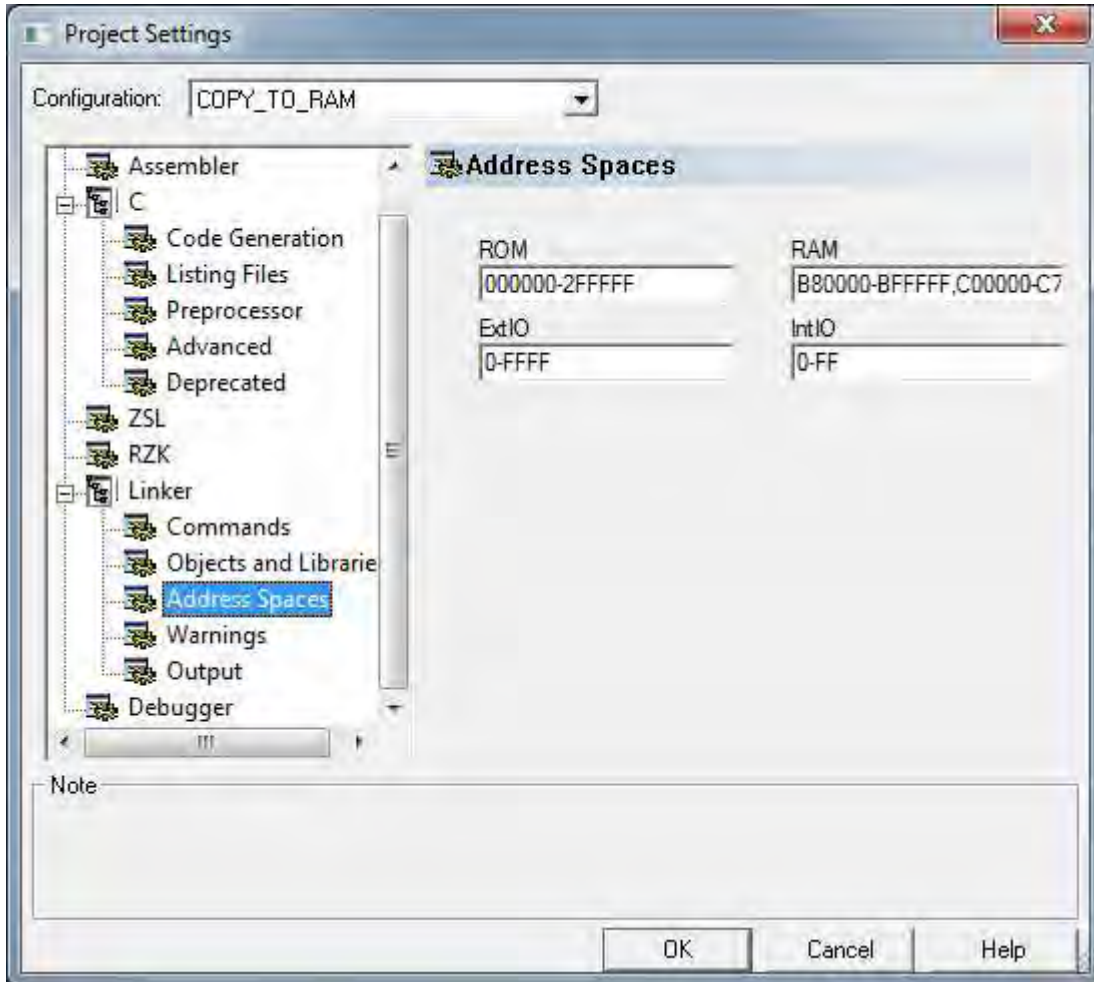

Figure 6. The Address Spaces Dialog for the Copy to RAM Build
6. When configuring Copy to RAM build configurations using the eZ80L925148MODG Module with the eZ80Acclaim! Development Platform, Zilog recommends using the settings in the Address Spaces selection of the Project Settings dialog which are shown in Figure 6. Ensure that your project's settings match the values displayed in the following figure.